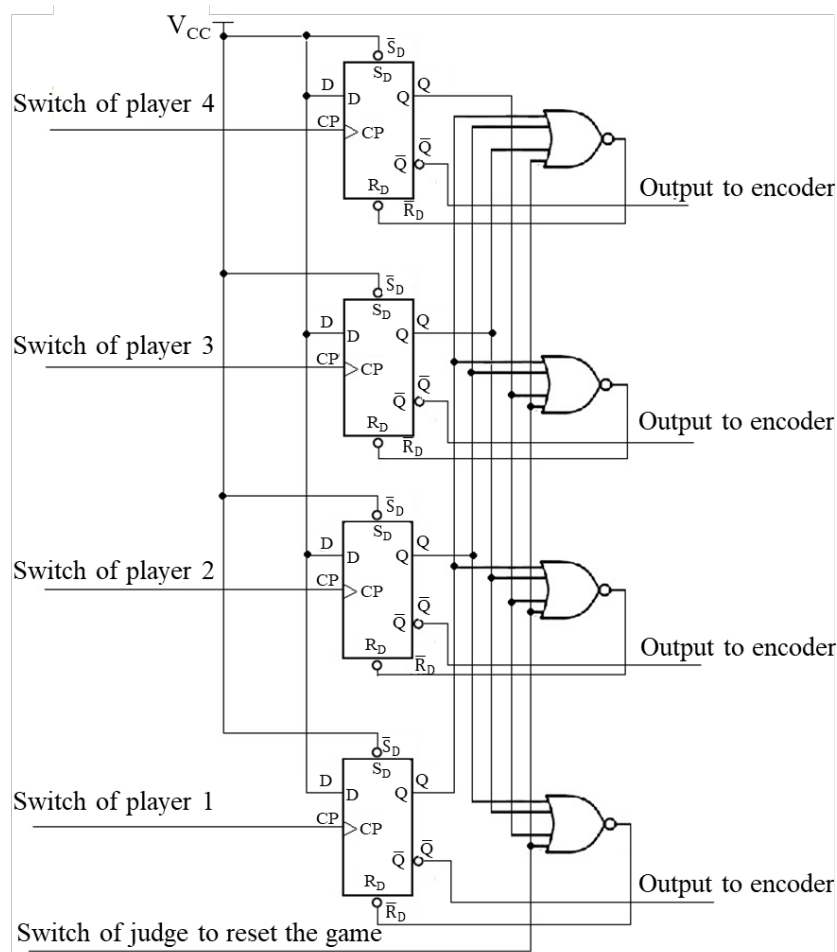

Figure 7. Circuit of the responder module.
- (1) Refer to the circuit diagram in Figure 7 and understand how it functions as the responder.
- (2) Build the circuit with 74HC74 $\times 2$ and 4002 $\times 2$. Use four channels of SIM for the four players and one channel for the judge. Use four channels of LOM to observe the outputs. You should observe that the LED is off for the fastest player who turns on the switch. Verify that the circuit works correctly.
- (3) Design a circuit to display the quickest player's ID on a 7-segment display. Hint: connect the 4 outputs from the circuit in Figure 7 to inputs 3, 4, 5, 6 of an 8-3 line priority encoder, as these inputs correspond to the BCD codes for numbers 1 to 4. The outputs A_2, A_1, A_0 from the priority encoder should be connected to the 74HC47 to control the 7-Segment Display.